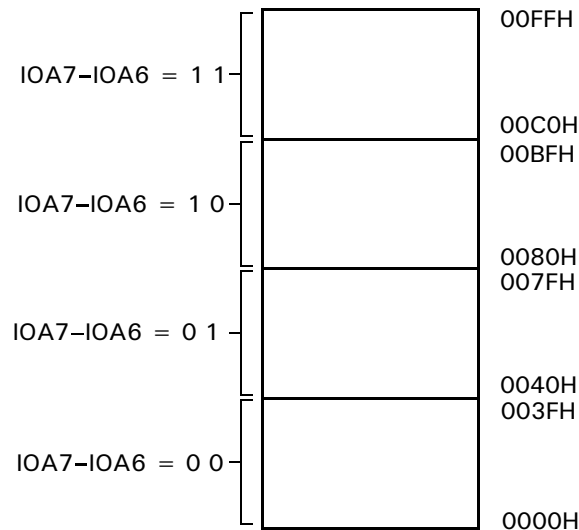

Figure 84. I/O Address Relocation
**IOA7, 6: I/O Address Relocation (Bits 7,6).** IOA7 and IOA6 relocate internal I/O as indicated in Figure 84.